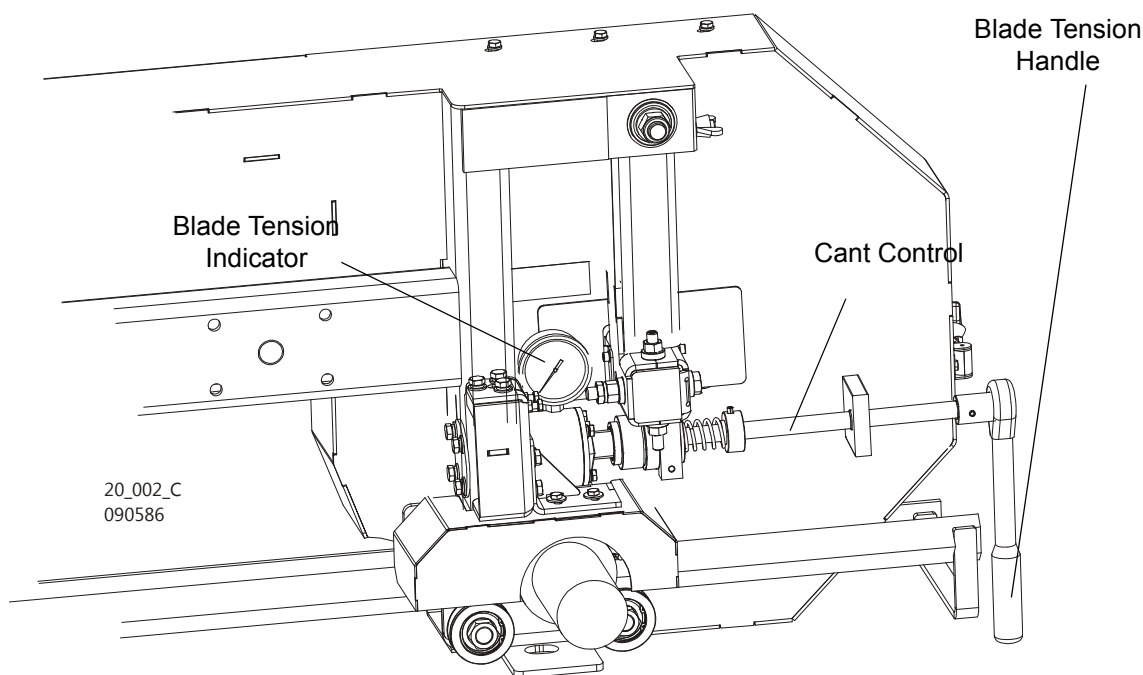

FIG. 2-10
See Figure 2-10. Position 1 1/4" wide blade on the wheels so the gullet is 3.0 mm (0.12") ± 1.0 mm (0.04") out from the front edge of the wheel.
5. Use the cant adjustment bolt, shown in **Figure 2-10** to adjust where the blade travels on the blade wheels.